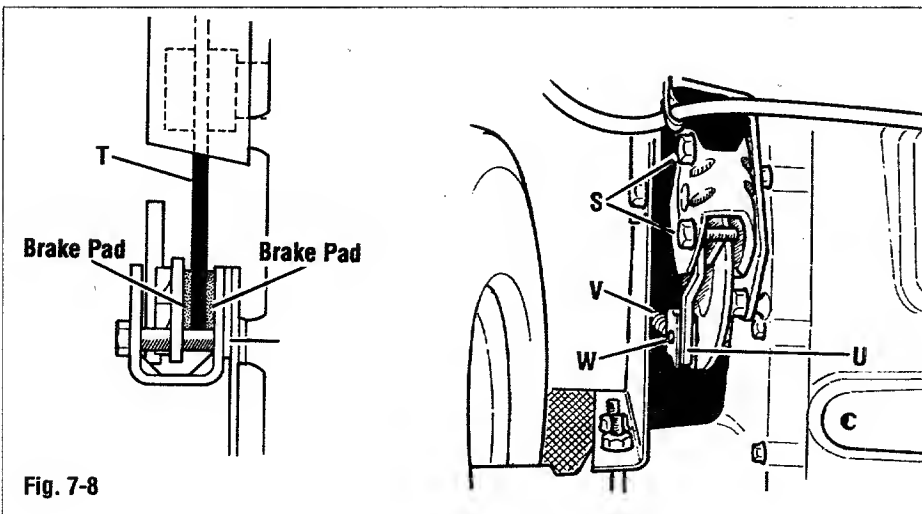

Fig. 7-8
1. Tighten brake mounting screws (S, Fig. 7-8) until a slight drag can be felt when disk (T) is rotated (by pushing tractor forward slightly).
2. Move brake pedal to disengaged (released) position. Move and hold brake arm (U) to full-forward position.
3. To adjust yoke assembly (V), remove clevis (W). Turn yoke assembly to align hole in yoke with bottom hole in brake arm.
4. Back yoke assembly off an additional four full turns (counterclockwise). Insert clevis (W) into yoke assembly and brake arm.